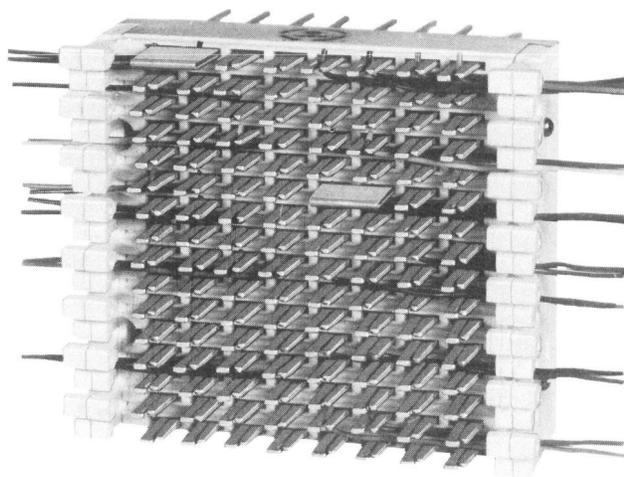

Fig. 13—Special Service Marking on 66G-Type Block
**3.14** The C clip-terminal insulator (Fig. 13) is for use on the 66G-type connecting block.